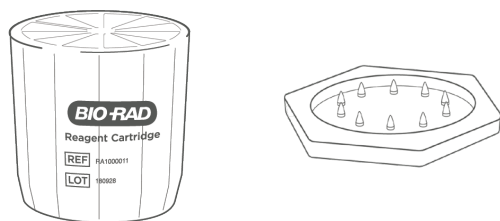

Fig. 32. Reagents Cartridge and Reagents Cartridge Venter.
2. Pierce the top foil of the Reagents Cartridge with the Reagents Cartridge Venter, making sure to twist the Venter and open the foil (Figure 32).